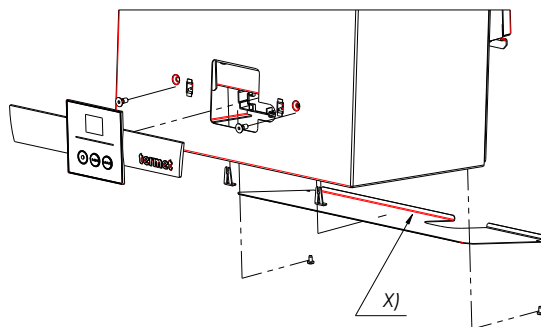

Fig. 3.2.1. Front cover removal
- Remove the safety device from the front cover, unfasten the control panel from its latches by pulling it forwards (Fig. 3.2.1.).
For electrical safety reasons the heater must be operated with bottom cover mounted (item X) fig. 3.2.1.